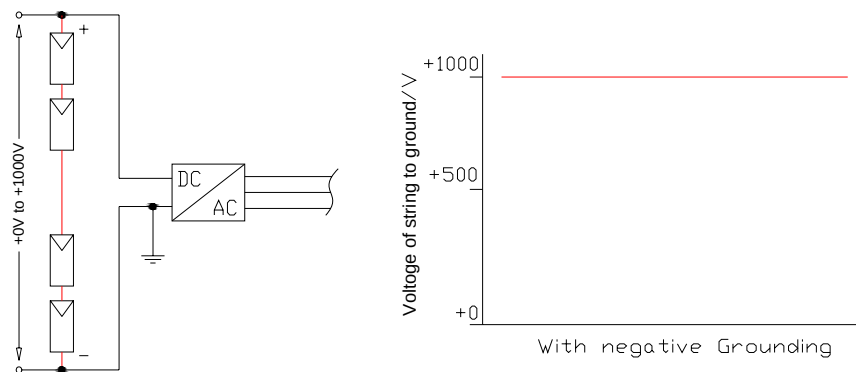

FIG 9 Schematic diagram for grounding potential of the inverter
- If the module is used in high-temperature and high-humidity environment, CSUN suggests the customer provide the inverter which allows negative grounding and contains isolation transformer (as shown in FIG9).